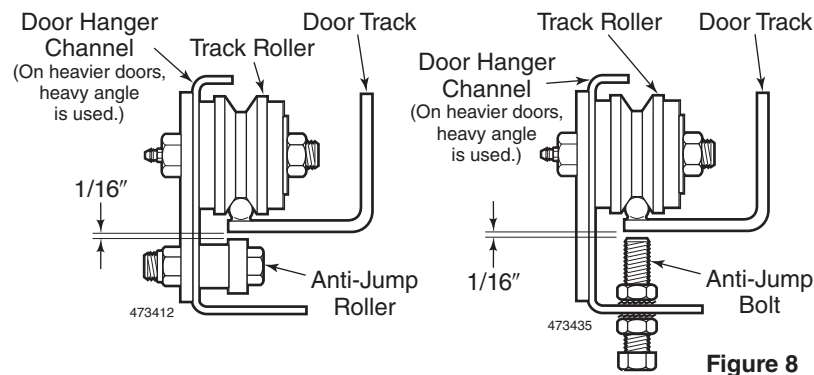

Figure 8
4. Install the Anti-Jump Bolt or Anti-Jump Roller to keep the door on the track. Adjust to a gap of 1/16". See Figure 8.